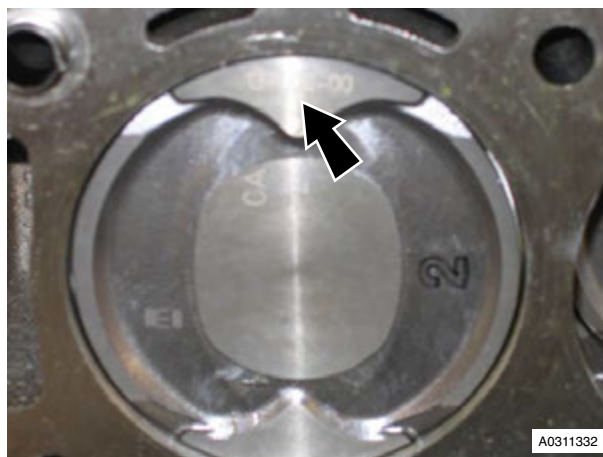

Figure 15
34. Note that piston grade number on crown and thick flange on connecting rod faces to front of engine on LH bank (B) (see Figure 15).